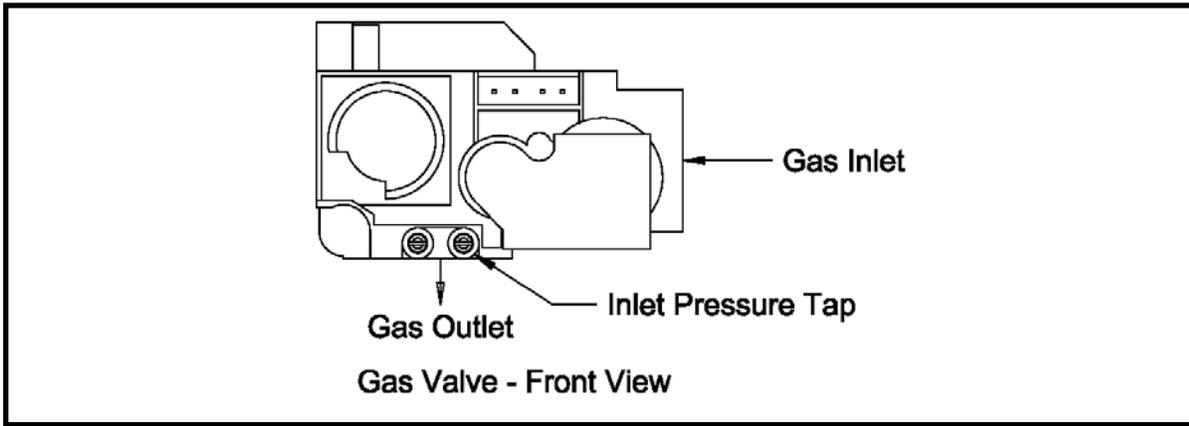

**Figure 10.1: CHG Burner Flame**
- 9) Inspect the flame visible through the window. On high fire the flame should be stable and mostly blue (Fig.10.1). No yellow tipping should be present; however, intermittent flecks of yellow and orange in the flame are normal.